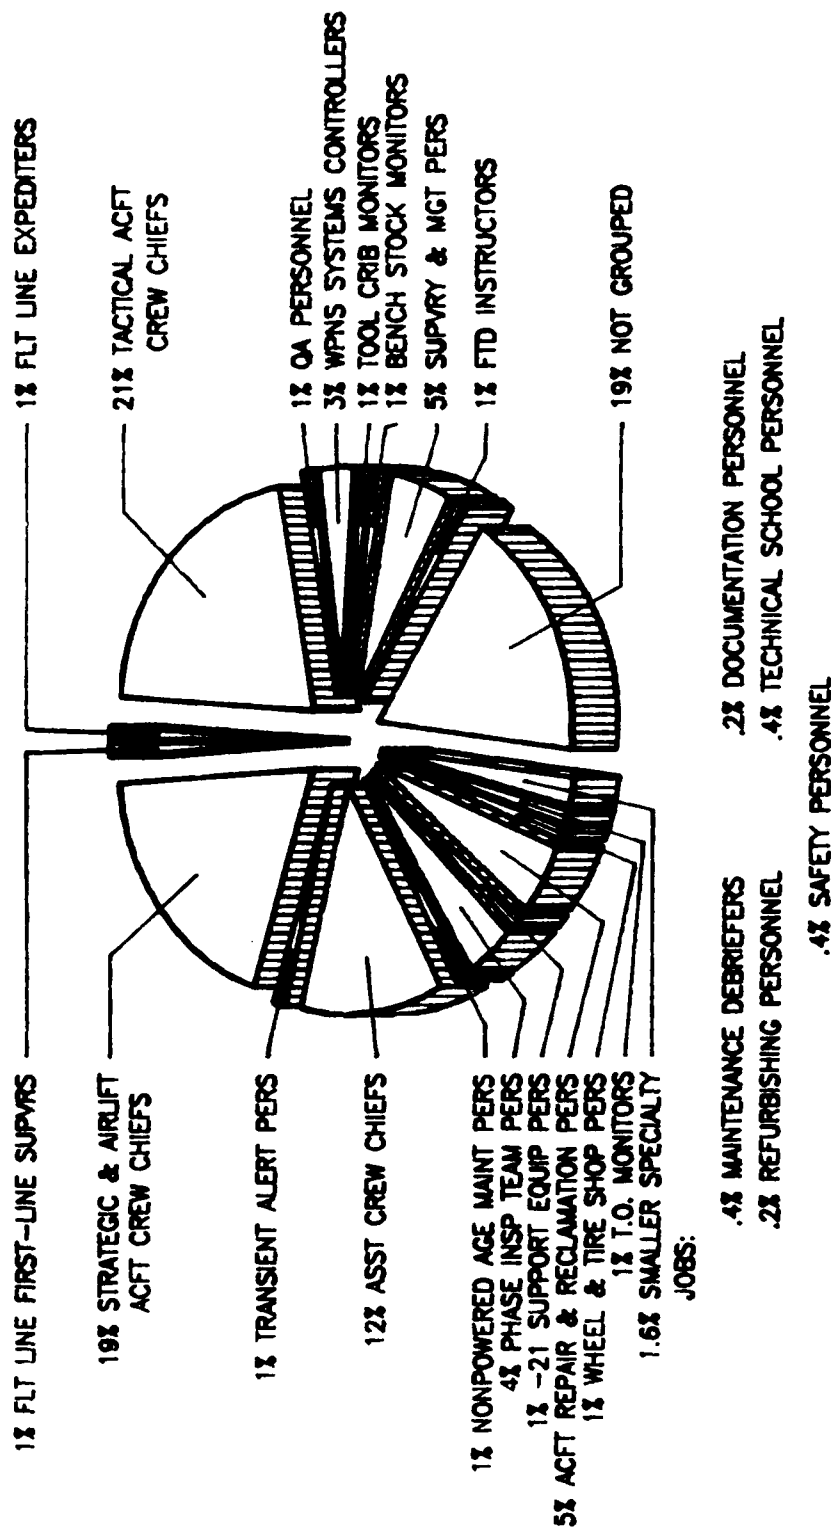

Figure 1
Responses from survey respondents indicate a variety of jobs are performed by AFSC 431XX personnel. Generally, the 23 jobs identified can be roughly grouped into broad categories of aircraft maintainers, maintenance support personnel, and staff personnel. The majority of the personnel included in aircraft maintainer jobs tended to group by specific AFSCs (as a result of the type(s) of aircraft maintained). Support and staff jobs tended to reflect a mixture of survey sample AFSCs. Based on task similarity and relative time spent, the division of jobs performed by AFSC 431XX personnel is illustrated in Figure 1, and a listing of these jobs is provided below. The group number (ST or GP) shown beside each title is a reference to computer printed information; the number of personnel in each group (N) is also shown.